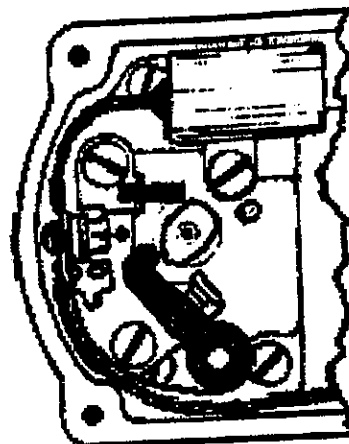

Fig. 2
4. Remove magneto cap. Turn magneto rotor so that narrow cam lobe and cam follower block are positioned as shown in Fig. 2, and points are just opening. This is static-timed position. Install magneto and teflon-coated gasket with washers and nuts provided. Drive lugs will engage with coupling slots. Replace cap and cork gasket. Tighten screws no more than 1/2 turn past hand-tight, so that corners of cap compress cork gasket thickness no more than 1/3. Always insure that screw threads are properly engaged, and that coil springs are seated on metal inside cap.